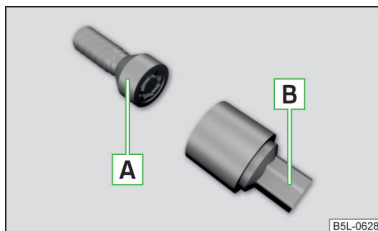

Fig. 212
The anti-theft wheel bolts protect the wheels from theft. These can only be loosened or tightened with the use of adapter **B** » Fig. 212.
- › Insert adapter **B** » Fig. 212 with the toothed side all the way into the inner teeth in the head of the anti-theft wheel bolts **A**.